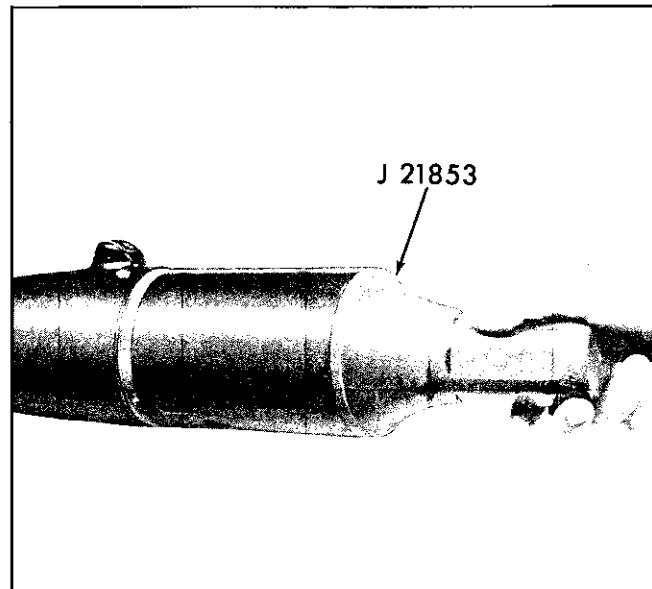

Fig. 9-33 Installing Turn Signal Switch Cover
- Remove tilt release lever and install cover using tool J 21853 (see Figure 9-33).